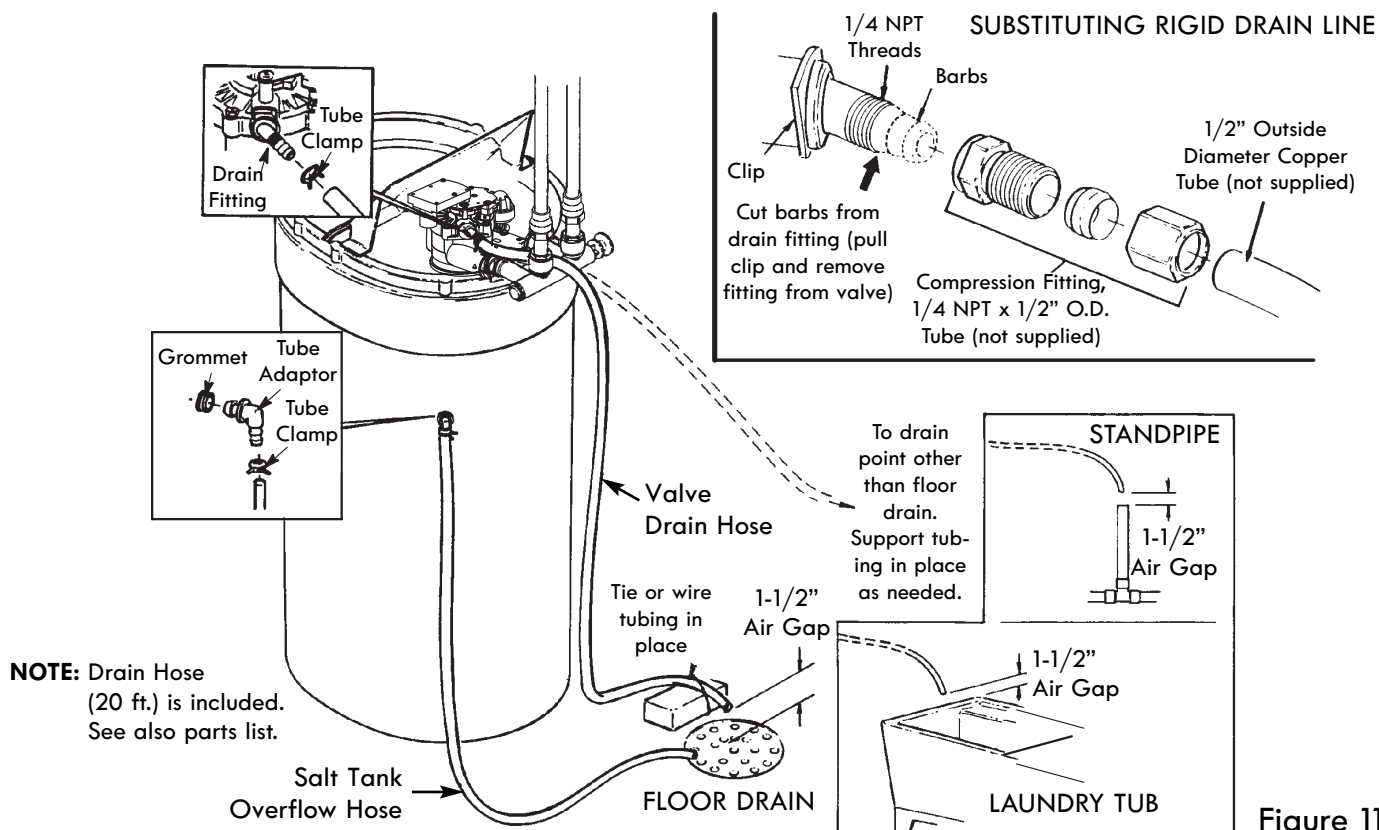

Figure 11
Take a length of 3/8" inside diameter drain tubing (supplied) and attach one end to the drain fitting (see Fig. 11). Use a tube clamp from the parts bag to hold it in place. Put the other end of the tubing over a floor drain, into a laundry tub, standpipe, or other suitable drain. Check your local codes.
1. Locate the rubber grommet, adaptor elbow and tube clamp (see Fig. 11) that are in the parts bag.
**IMPORTANT:** Overflow water must run down by gravity through the tubing. Do not raise the tubing higher than the adaptor (see Fig. 11).